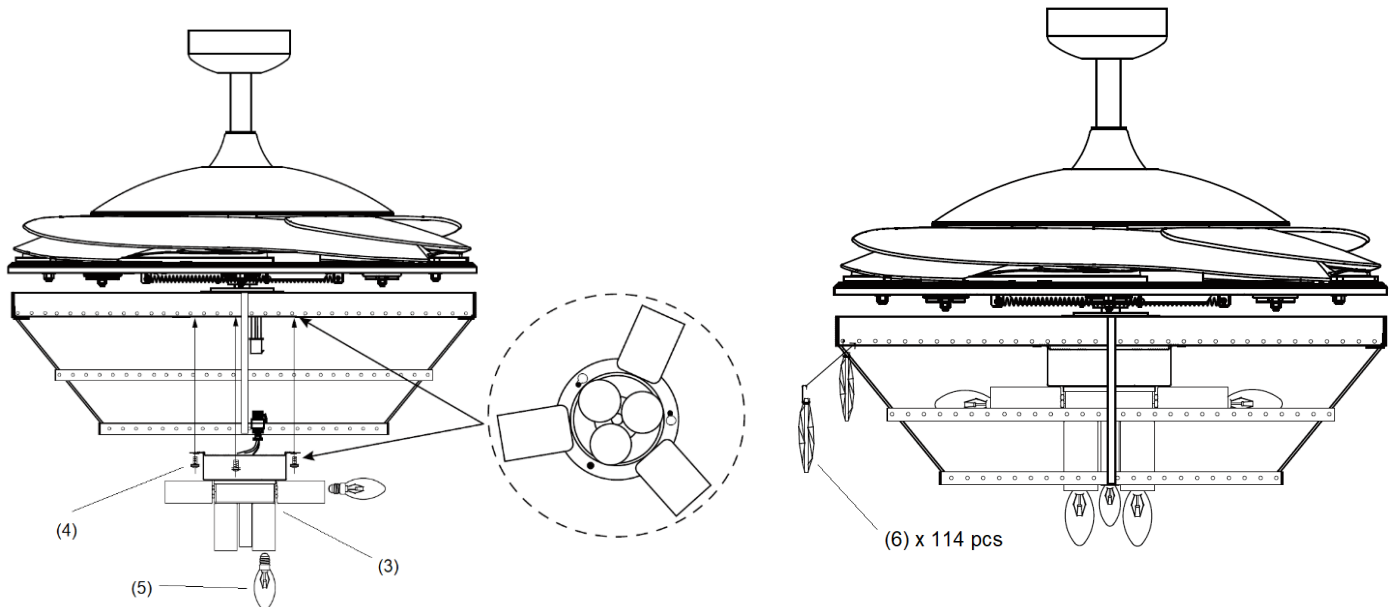

Fig. 8
4. Connect the quick connector to the lamp holder part (3). (Fig. 8)
5. Secure the lamp-holder part (3) to the light kit bracket by tightening the 3 screws (4). Do not over-tighten.
6. Install the globes (5) to the lamp holders. Do not exceed the maximum power rating.
7. Install the decorative drops (6) to the light kit.